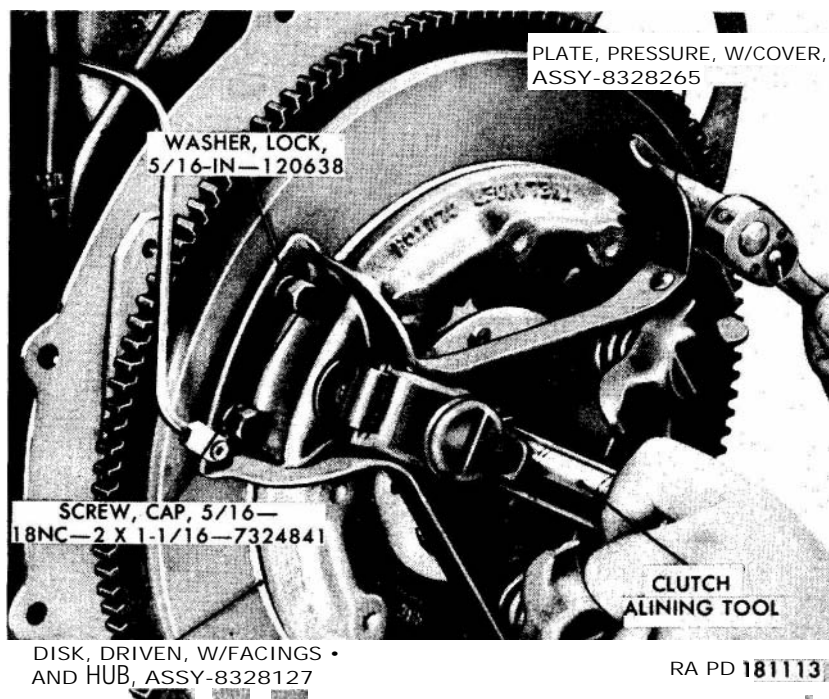

Figure 102. Installing clutch pressure plate w/cover assembly.
b. Install the pressure plate with/cover assembly (*fig. 102*) and secure it in place with six $\frac{5}{16}$ -inch lock washers and $\frac{5}{16}$ -18NC-2 x $\frac{1}{16}$ cap screws. Hold the improvised clutch alining tool firmly in place while tightening the pressure plate cap screws. To avoid distorting the plate, tighten the screws a little at a time and evenly around the circle.